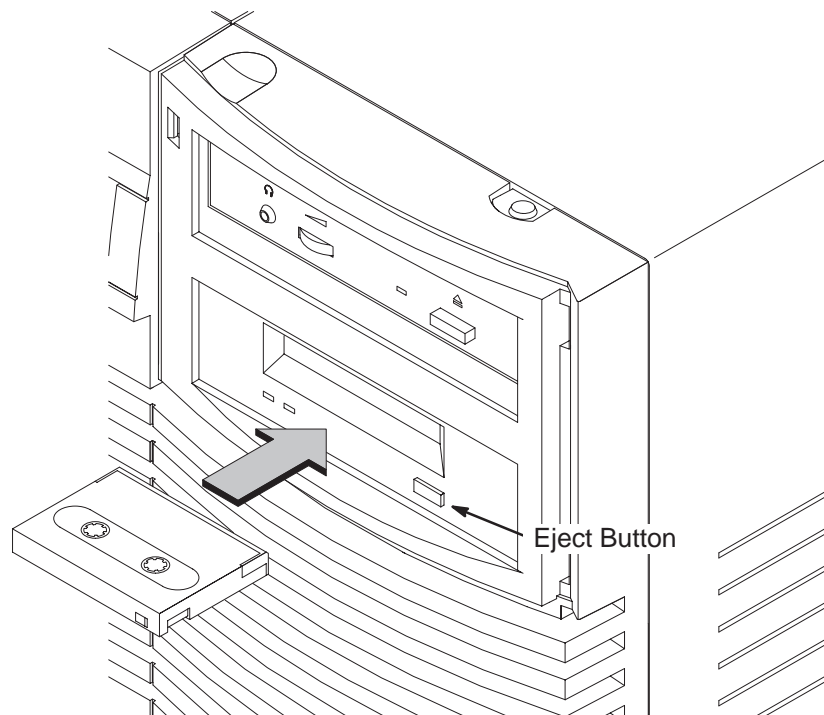

Figure 3-3. Loading a Data Cassette
2. Insert the data cassette into the drive, as shown in Figure 3-3.